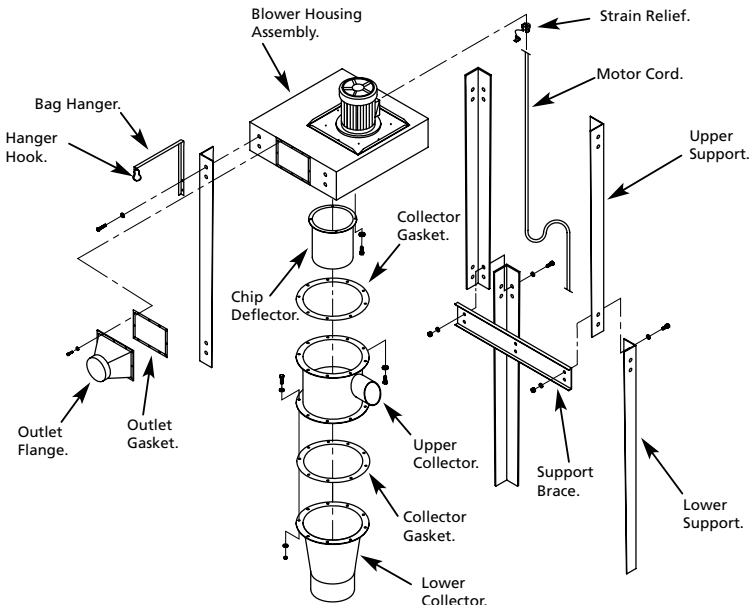

Fig. 2
**MOUNT TWO UPPER SUPPORTS (FIG. 2)**
## MOUNT UPPER COLLECTOR (FIG. 2)
## MOUNT OUTLET FLANGE (FIG. 2)
## MOUNT LOWER SUPPORTS AND SUPPORT BRACES (FIG. 2)